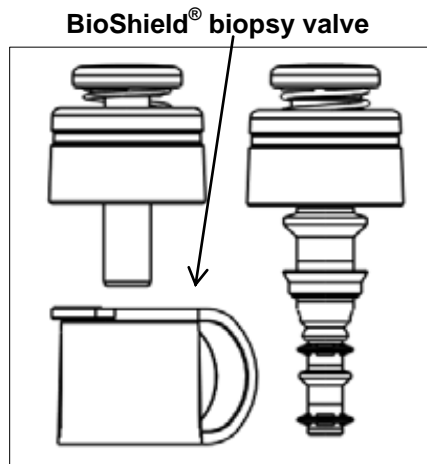

Figure 2
12. If using the 3 piece kit (See Figure 2), attach the **BioShield® biopsy valve**.